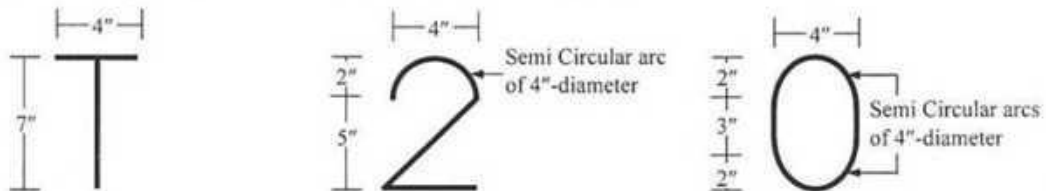

Fig. 1
1. Calculate the equivalent polar moments of inertia ( $J_{eq}$ ) for the three cross-sections shown in Fig. 1 by centerline dimensions [Given: Wall thickness = 0.10" throughout].